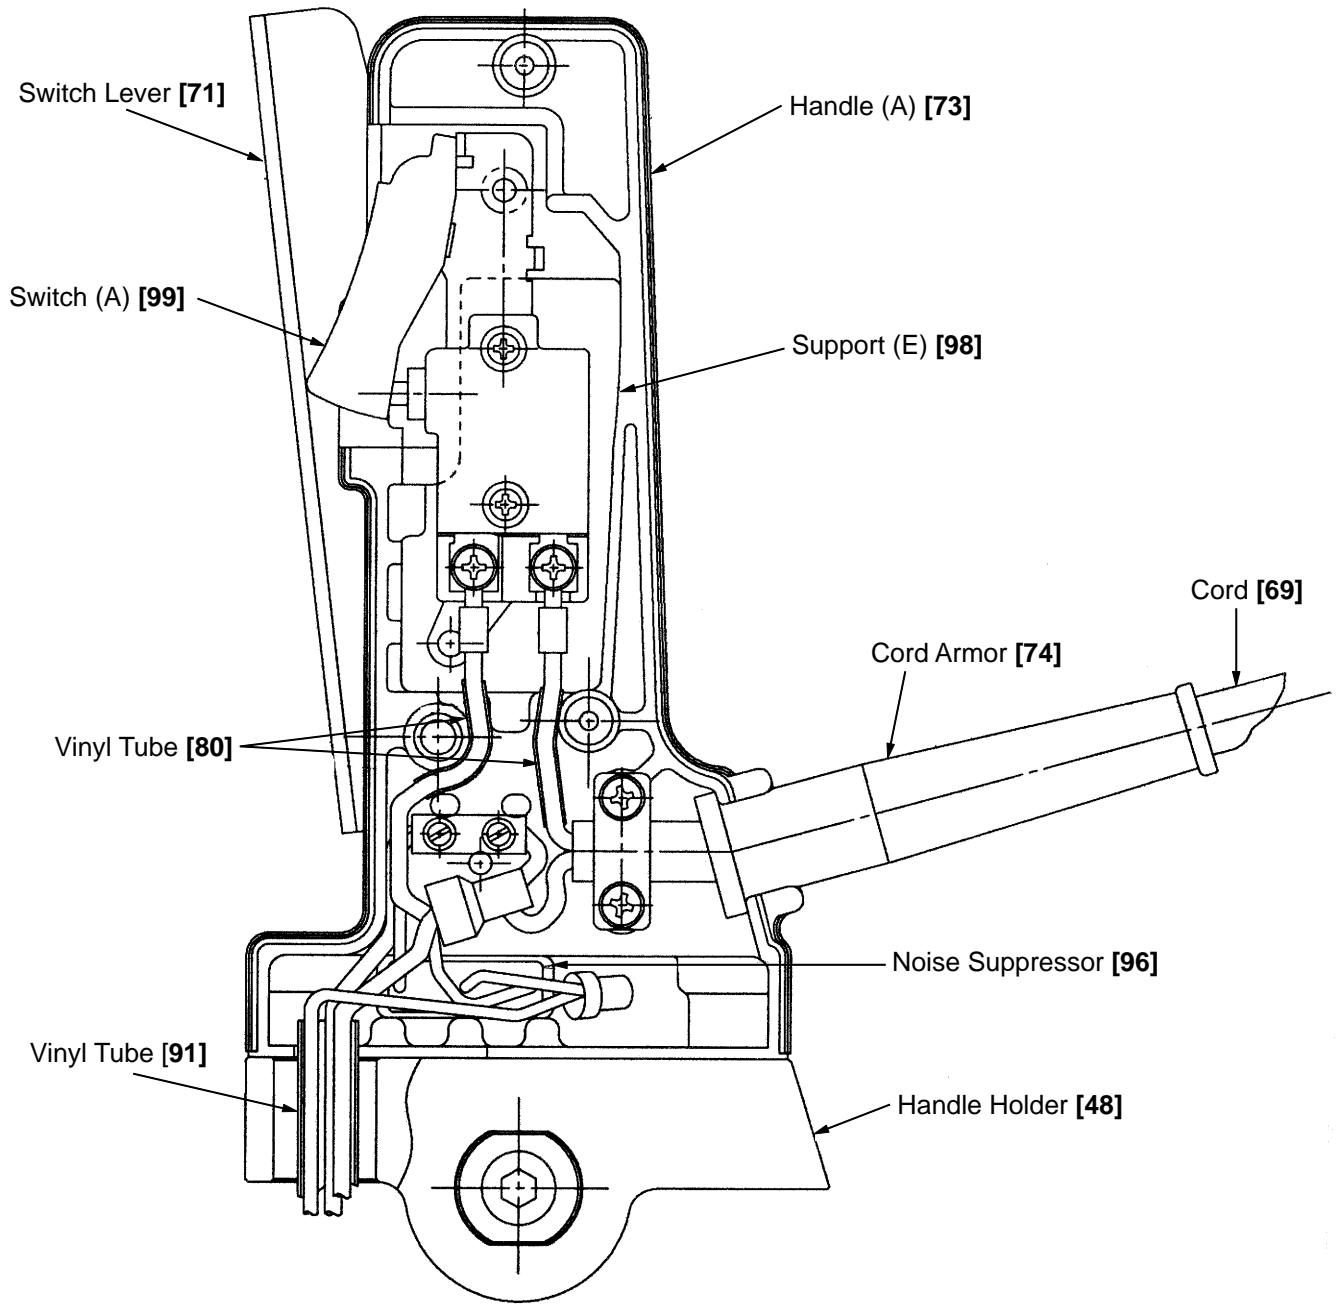

Fig. 15
- Safety precautions in wiring work (See Fig. 15.)